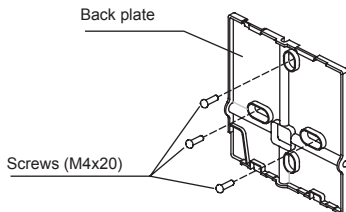

Fig 3-5
- For exposed mounting, fasten the back plate on the wall with the 3 screws (M4x20) and plugs. (Fig.3-5)